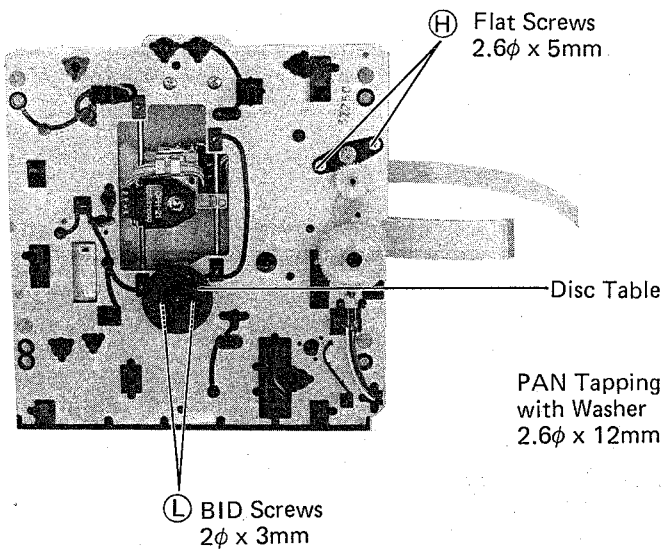
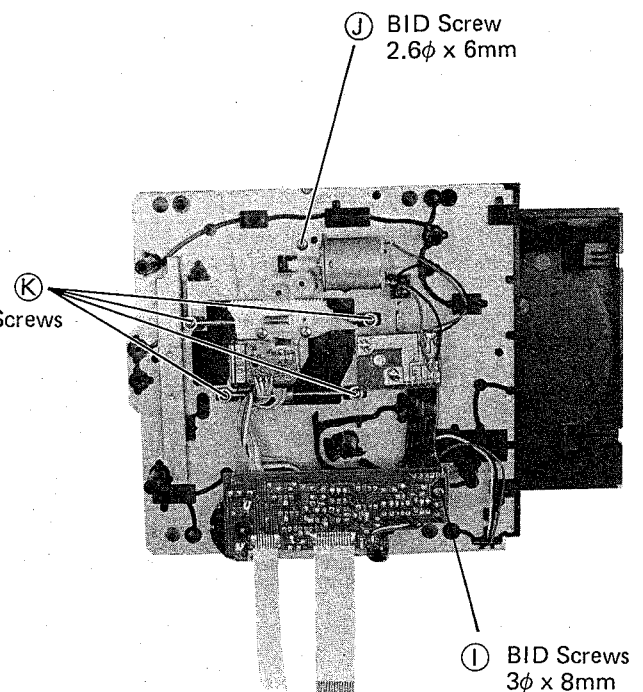

Figure 10
Figure 11
3. Remove two screws (H) (Figure 10) and one screw (I) (Figure 11), and the loading motor P.C. Board will be removed.
4. Remove one screw (J) and pulley drive gear, and the pickup motor assembly will be removed. (Figure 11)
5. Remove four screws (K), and the pickup will be removed. (Figure 11)
6. Remove disc table and two screws (L), and the disc motor assembly will be removed. (Figure 10)